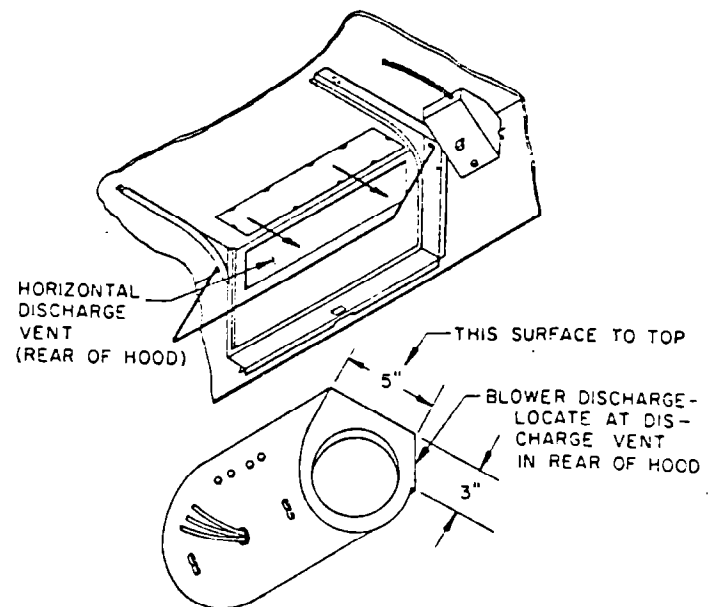

FIGURE 2
1. Figure 2 shows the proper Blower Assembly orientation for horizontal discharge.
2. From the Blower position shown in Figure 2, lift the Blower Assembly vertically into position.